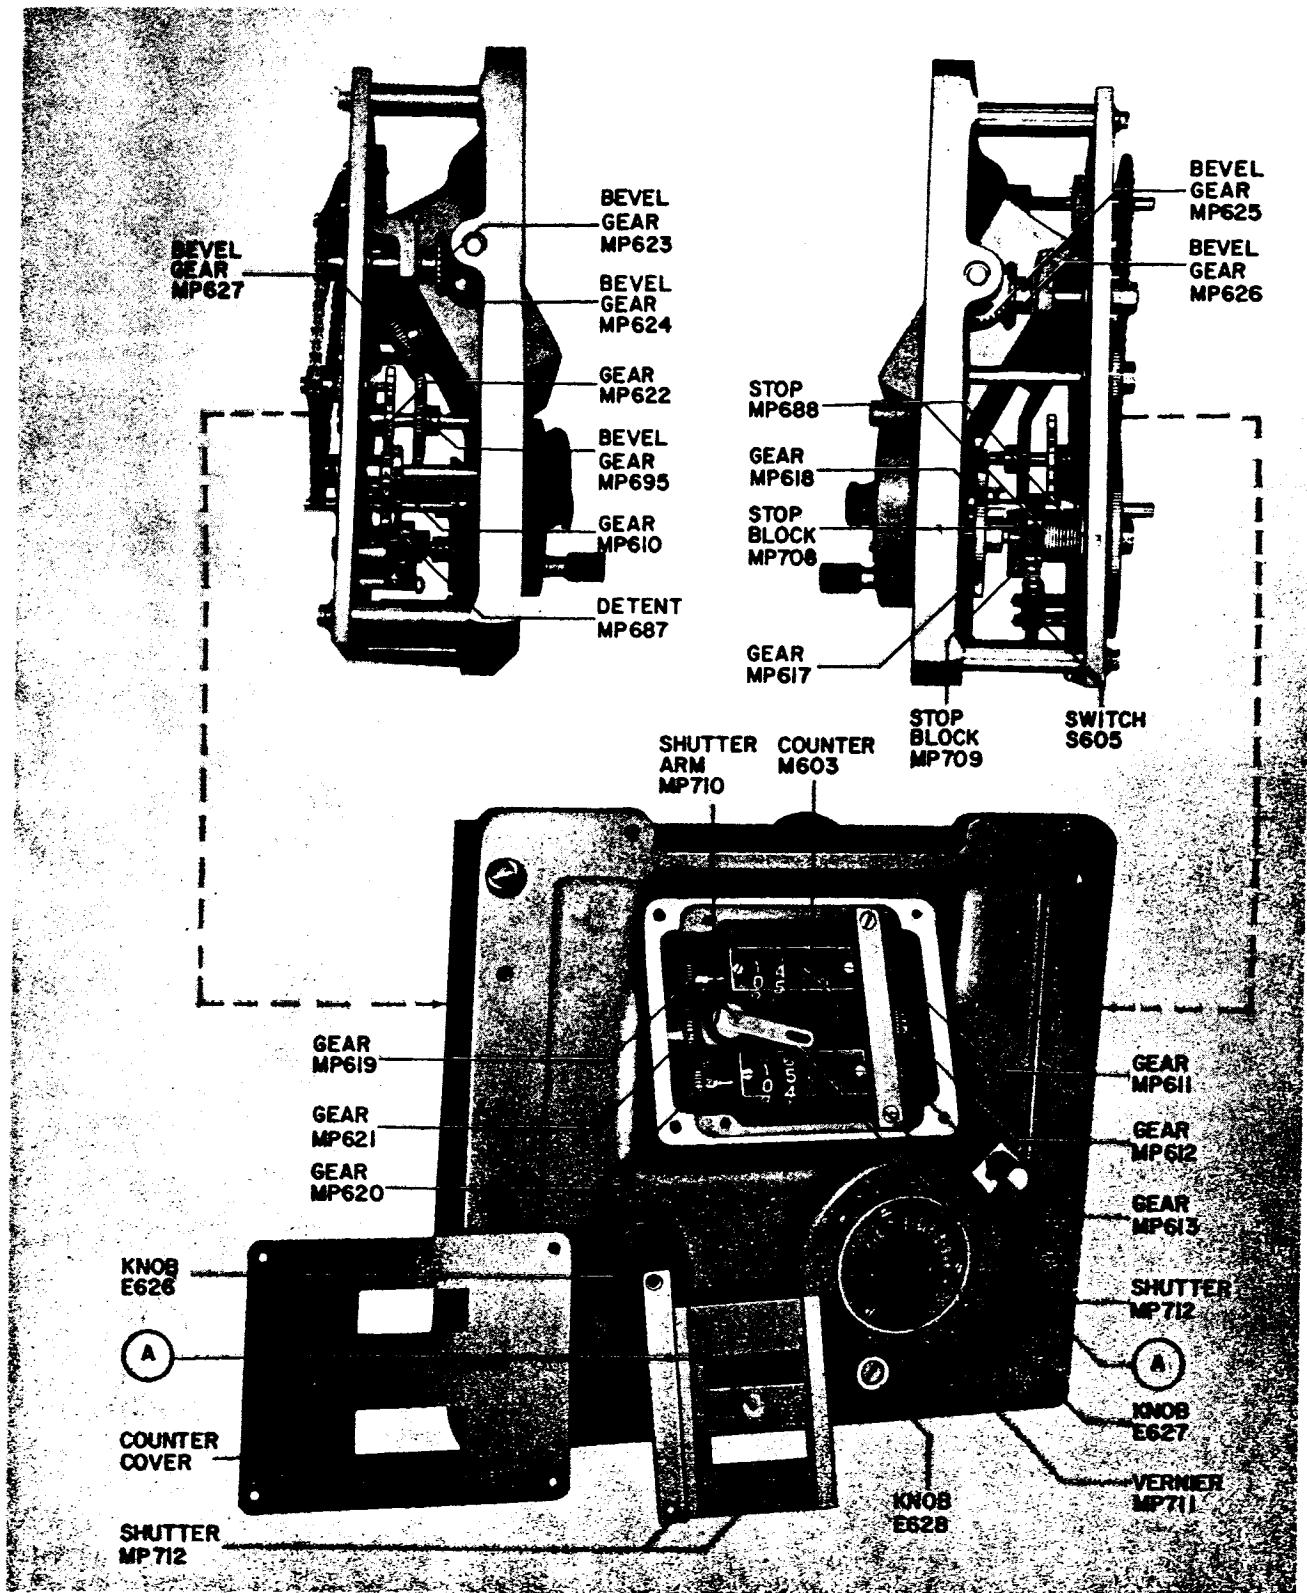
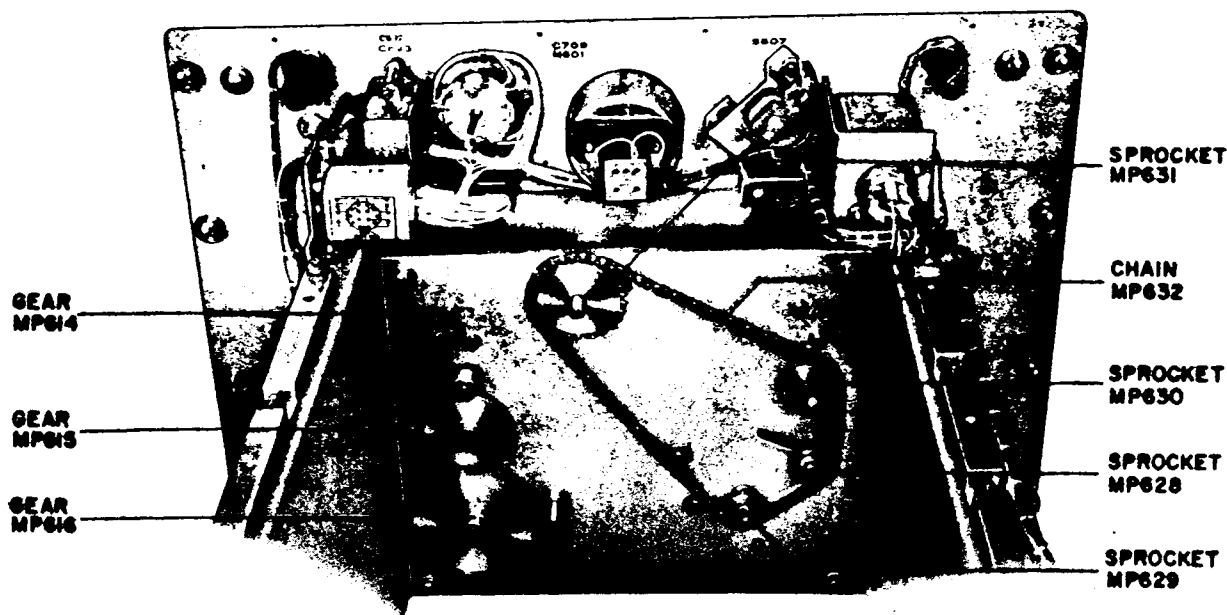

Figure 6-19. Electrical Frequency Control C-2861/WRT-1, R plac m nt of Gear B x Parts
Figure 6-18. Electrical Frequency Control C-2861/WRT-1, Interpolation Oscillator Gear Train, Replacement of Parts on Gear Box Back Plate
(6) GEAR DRIVE ADJUSTMENT.—To adjust the gear assembly, refer to figures 6-18 and 6-19 and proceed as follows:
Step 2. Set the left dial of the upper counter and of the lower counter to 4 by turning the gear shafts. Turn TUNING (A) control knob until the shutter moves to the down position to read the lower counter.
Step 5. Rotate TUNING (A) clockwise. Clockwise rotation of TUNING (A) control knob should now shift the shutter to the upper position and the left dial of the upper counter to 5.
Step 9. Rotate TUNING (B) control knob counterclockwise until the stop on gear MP618 limits the turning of the knob.
Step 11. Replace the shutter assembly. Be sure that the pin on the shutter properly engages the slot in the shutter area (see figure 6-19 A). Replace the counter cover.
Step 13. Check that all instructions given in the note at the beginning of paragraph 6-3f(6) have been fulfilled. Pin all collars, gears and sprockets. All parts to be pinned require 3/32-inch pin holes. Pins in shafts of gear MP618 and sprocket MP631 should be pressed in with 1/4-inch projecting.
(7) GEAR DRIVE REPLACEMENT.—Reinstall the gear drive assembly in the chassis by reversing the procedure of paragraph 6-3f(3). Replace the oven in the chassis, and proceed as follows:
Step 3. Rotate the shaft of rotary band switch S601 to place the wiper in the position directly connected to capacitor C667. Turn the TUNING (A) knob until the left dial of the lower counter is at the 0 reading. With this orientation of the shafts maintained, couple the shafts and tighten the set screws.
Step 4. Turn the shaft of capacitor C662 so that the rotor plates are at precisely 90° with the stator plates. To set the plates to 90°, turn the rotor so that the longest half of the plates is unmeshed and open approximately 90°. Place a steel scale against the capacitor sidebar facing the flat edges of the rotor and set the rotor so that the distance between the sidebar and the flat edges is 1-15/32 inches. Turn TUNING (B) control knob until the three righthand dials of the lower counter read 500. Rotate TUNING (A) control knob until the left hand dial of the lower counter reads 2. With the reading maintained on the lower counter, couple the shaft of C662 to the shaft from the counter, and tighten the set screws.
(3) GEAR DRIVE REMOVAL.—The gear drive assembly of Electrical Frequency Control C-2861/WRT-1 is removed with the oven out of the chassis. Identify, mark and remove all connections to the oven. Remove the three screws from each mounting angle for the oven assembly. Disconnect couplings MP691 and MP692 from the gear box and slide the oven slightly toward the back of the chassis and then lift it out of the chassis. Remove the eight screws which attach the gear drive assembly to the front panel of chassis. Shift the gear assembly toward the rear of the chassis and remove it.
(4) GEAR DRIVE DISASSEMBLY.—To disassemble the gear assembly, refer to figures 6-18 and 6-19 and proceed as follows:
Step 1. Remove microswitch S605 by withdrawing the two mounting screws from the back cover of the gear housing. See figure 6-18.